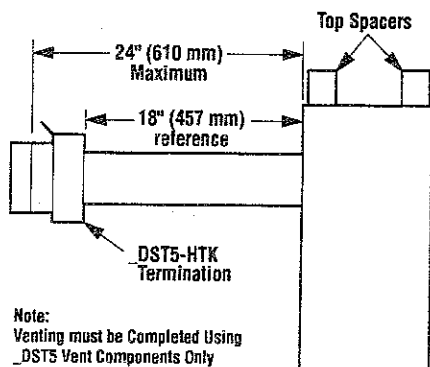

Figure 10
Venting may contain one (1) _DST5-45ELB (45° elbow) if it is mounted directly against the back of the appliance. For venting options refer to *Figures 10 and 11*. Maximum allowable wall thickness is 17 1/2" when venting straight out the back of the appliance.